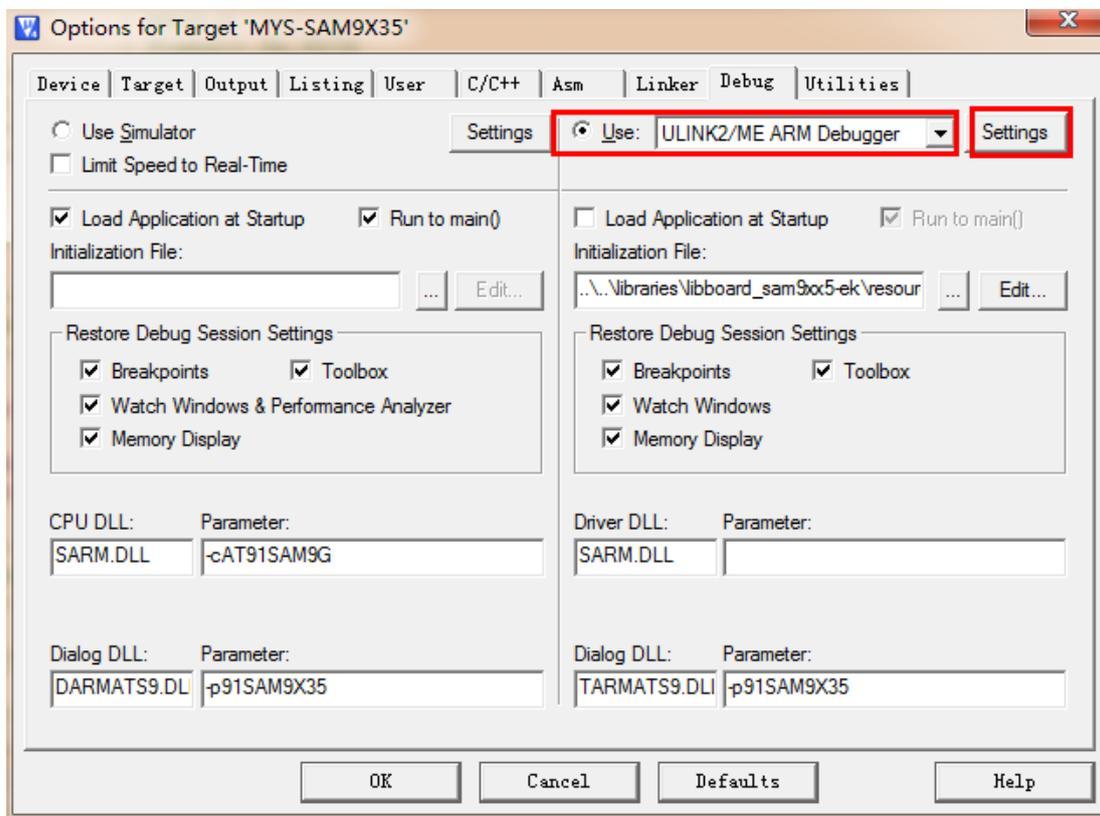
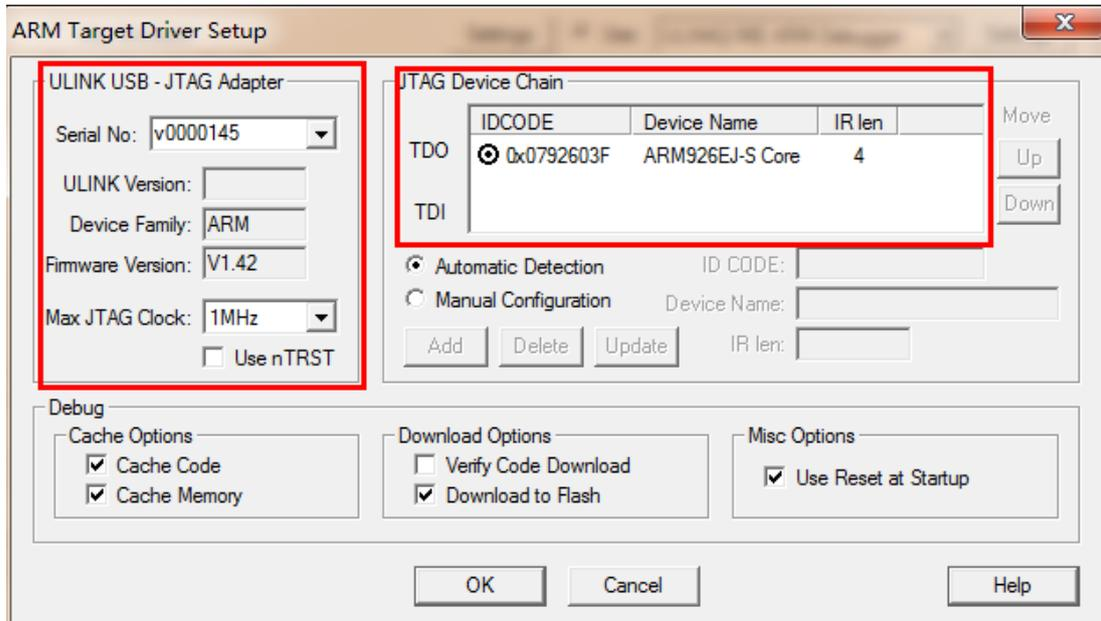

Figure 3-10
Figure 3-11
(1) After opening project file, open the setting dialog box and select Debug. Refer to figure 3-10:
(3) Clicking Setting in figure 3-10, there will be connection status of ULink2 and development board, as well as kernel identification. Refer to figure 3-11: